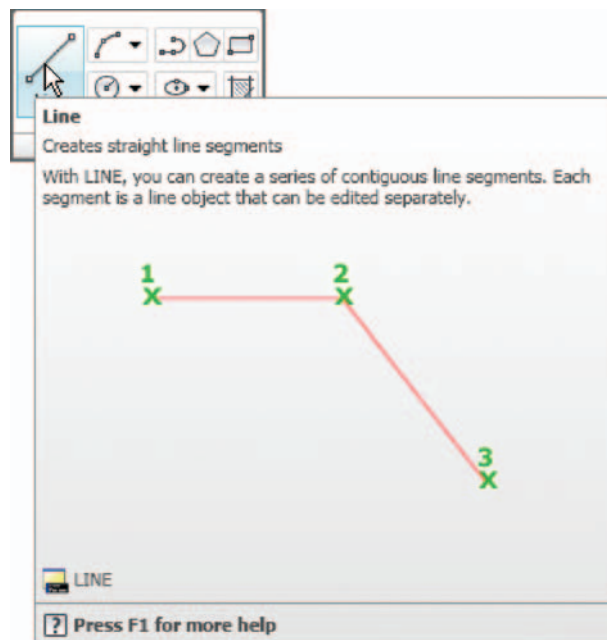
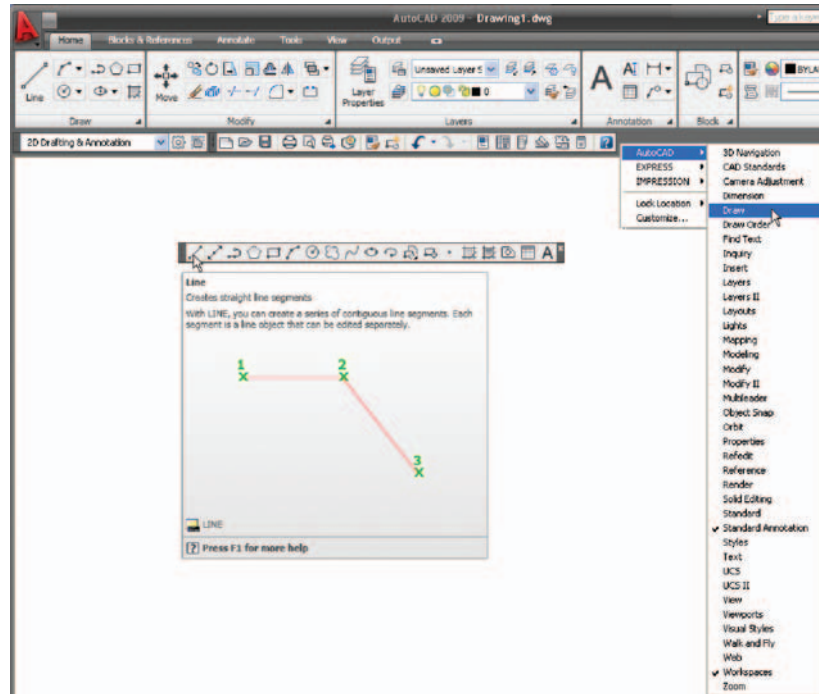

Fig. 2.1 The **Line** tool from the **Home/Draw** panel with its tooltip
Fig. 2.2 Line and its tooltip from the **Draw** toolbar
Illustrations throughout this chapter will be shown using the **2D Drafting & Annotation** workspace. However, methods of construction will be the same if the reader wishes to work in other workspaces. In this workspace, the **Home/Draw** panel is at the left-hand end of the **Ribbon**, and **Draw** tools can be selected from the panel as indicated by a *click* on the **Line** tool (Fig. 2.1). In this chapter all examples will show tools as selected from the **Home/Draw** panel. It is possible to select tools from the **Draw** toolbar. To place the **Draw** toolbar on screen when working in the **2D Drafting & Annotation** workspace, *right-click* in the area to the right of the **Standard Annotation** toolbar, followed by a *right-click* on **AutoCAD** in the menu which appears, and selecting **Draw** from the list of toolbars. The **Line** tool with its tooltip is shown, selected from the **Draw** toolbar in Fig. 2.2.
Any toolbar can also be selected from the *right-click* menu in any toolbar on screen as shown in Fig. 2.2.
2. Left-click on the **Line** tool in the **Home/Draw** panel or **Draw** toolbar (Figs 2.1 and 2.2).